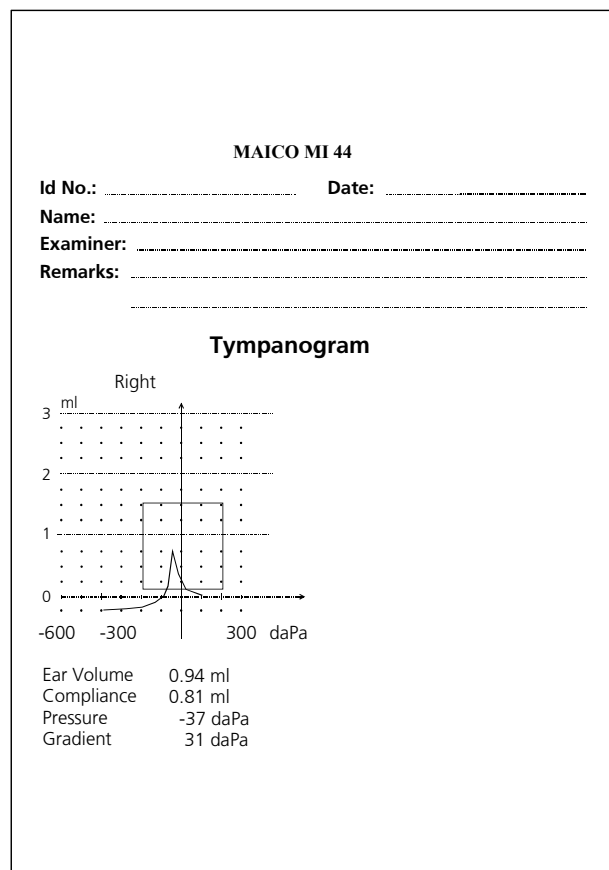

Figure 17 – Printout of Tympanogram
After the end of a test you can print out the results for your records by pressing the PRINT button ①. The quiet thermal printer prints out the example used in the previous paragraph 4.5 in only 6 seconds. While the printer is working no key action is possible and the probe is inactive. Figure 17 shows the printout: